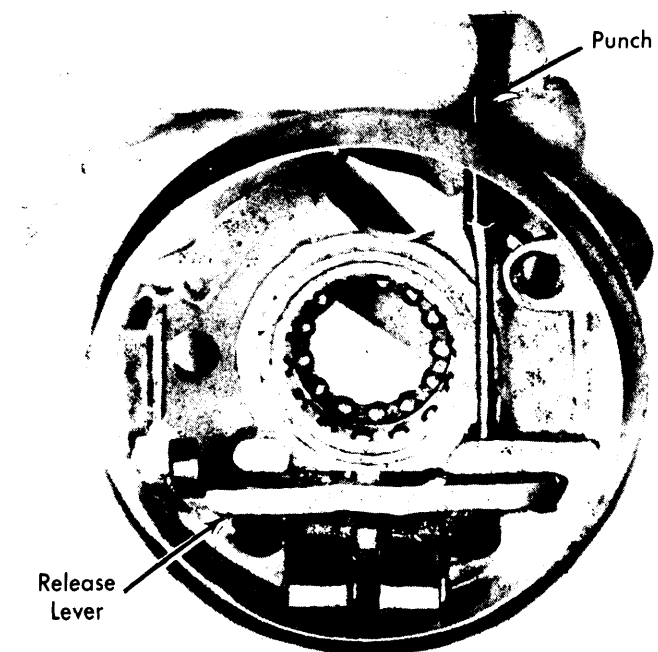

Fig. 11 Removing Release Lever Pivot Pin
13) Remove tilt release lever. Using a punch, drive out release lever pin. Compress lock shoe spring to release spring tension on pin (see Fig. 11).